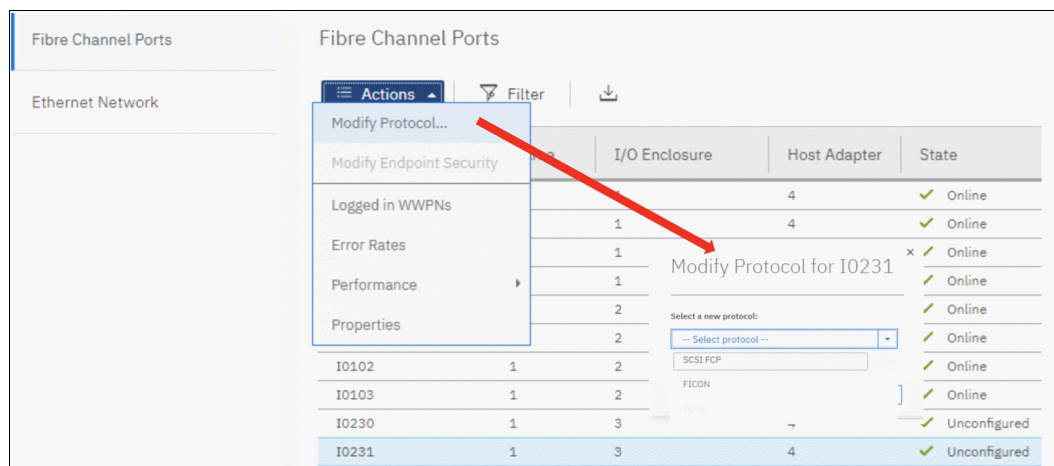

Figure 9-81 Modifying the FC port protocols
4. Click **Modify** to set the topology for the selected FC ports, as shown in Figure 9-81.